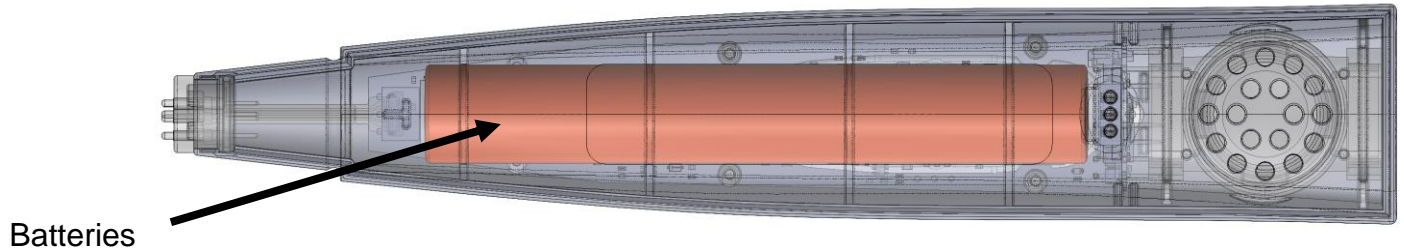

Figure 2 - Battery Location
- 3.3. Using a hammer gently hit the left and right ends on the joints of the housing. Avoid striking the center portion as this is where the batteries are located. See Figure 2 (below) for the battery location. This step is necessary to break the joint between the two halves of the housing.